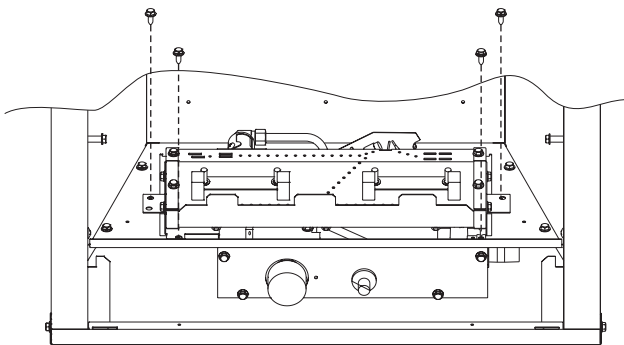

Figure 22
5. Remove burner assembly [four (4) 10 x 1/2" screws]. See Figure 22.